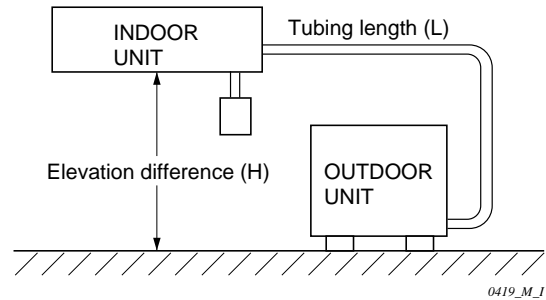

Fig. 1
During tubing work, try to make both the tubing length (L) and the difference in elevation (H) as short as possible. Refer to Table 1 and Fig. 1 for the details.